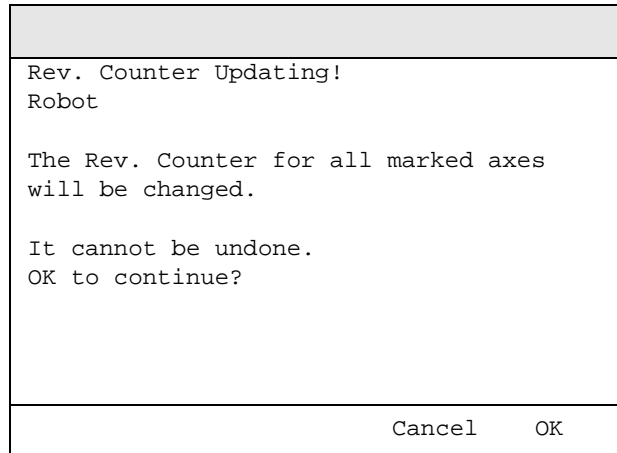

Figure 16 The dialog box used to start updating the revolution counter.
7. Confirm by pressing **OK**. A window similar to the one in Figure 16 appears.